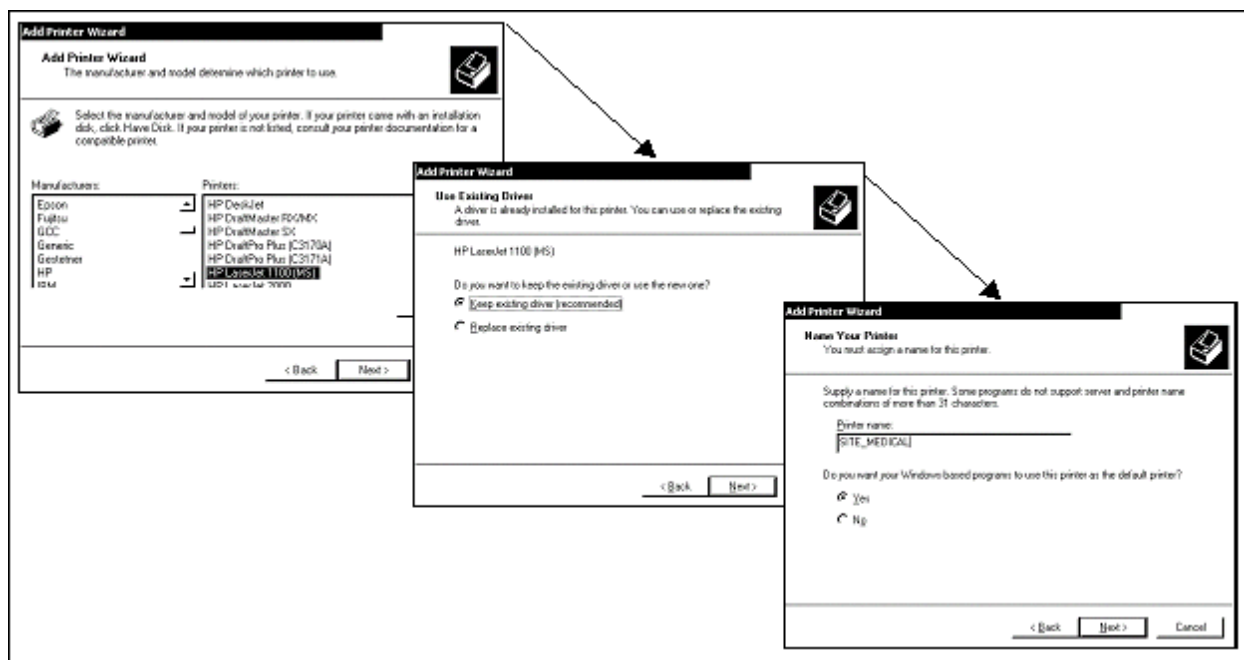

Figure 6-25: Adding a TCP/IP Printer, Steps 6-8
8. Select the Keep Existing Driver option (if possible) at the “Do you want to keep the existing drive or choose a new one?” prompt. Click the Next button (Figure 6-25).